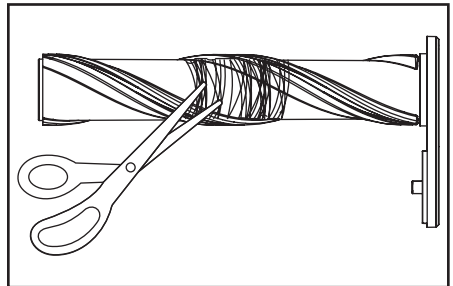

Fig. 4
3. If the brushroll is jammed, carefully use a pair of scissors or a sharp knife to remove any hair or debris tangled around the brushroll (Fig 4).